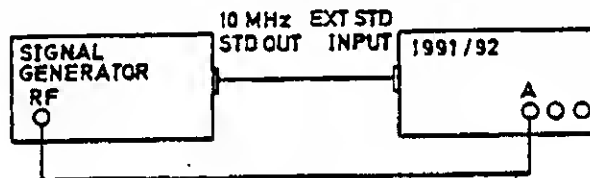

Figure 6.22 - Connections for Channel A Input System Adjustment
- d. Connect the test equipment as shown in Figure 6.22